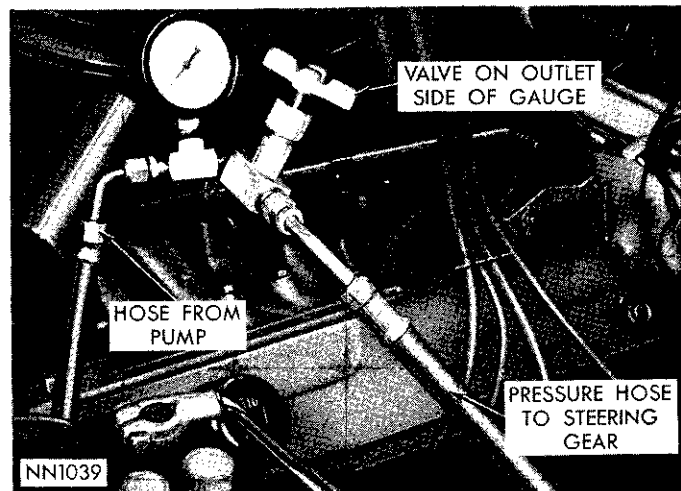

Fig. 3—Pressure Test
(1) Inspect fluid level in reservoir. Fill to correct level indicated on dip stick if necessary.
(2) Measure belt tension and correct if necessary. See "Cooling System," Group 7.
(3) Disconnect the high pressure hose at the steering gear and connect the free end of the hose to the gauge side of C-3309D. Connect a second pressure hose from the valve side of C-3309D to the steering gear. The valve must be installed on the outlet side of the gauge. (Fig. 3).
(4) Insert thermometer in fluid reservoir, start engine and warm up fluid to a temperature between 150 and 170 degrees Fahrenheit.